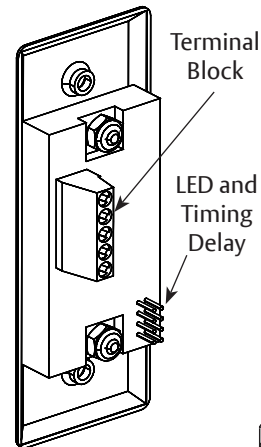

Figure 7
4. Use small flat head screwdriver to connect 24VDC and activation wiring with terminal block. (Fig 7) See "Wiring", page 2 and appropriate wiring diagram of door operator instructions.